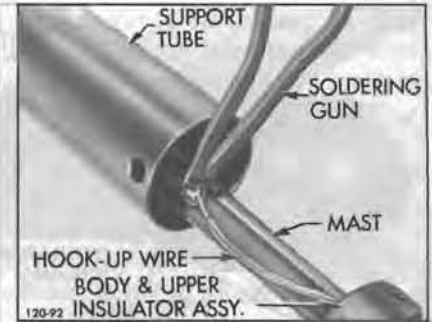

Figure 129-16—Soldering Hook-Up Wire to Mast
0.40 inch diameter section of the mast (see Figure 129-16).
7. Solder the free-end of the hook-up wire to the 0.40 inch diameter section of the mast section, using rosin flux solder (see Figure 129-16).